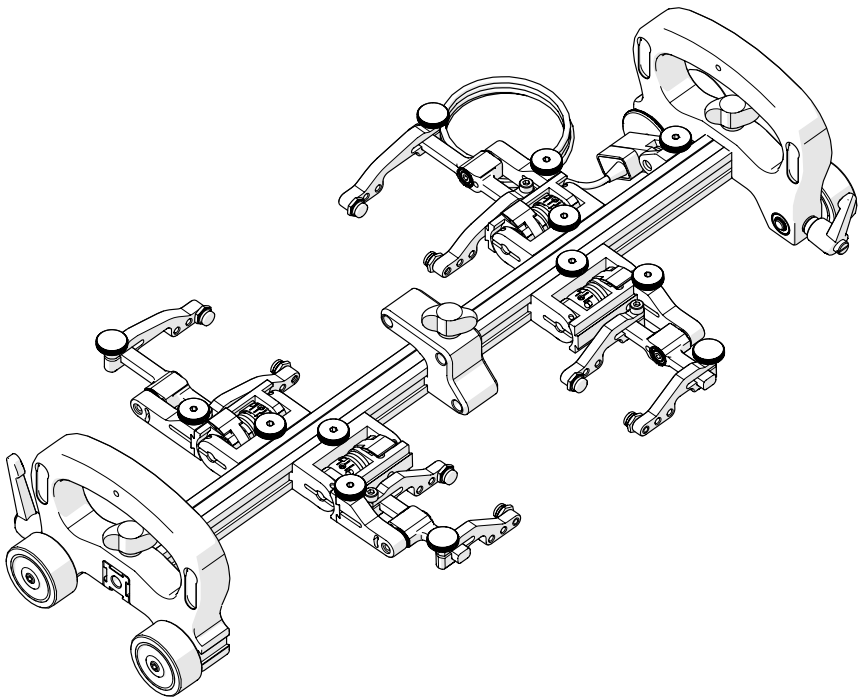

Fig. 105 - Assemble configuration
2. Assemble the appropriate configuration to the frame bar (Fig. 105). Install the wedge and probes that will be used (see *Slip Joint Probe Holder* on page 27).